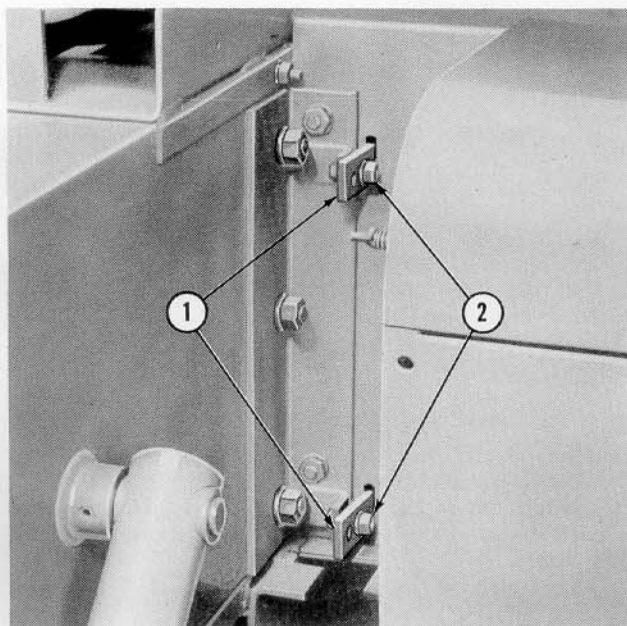

Figure 10
Figure 10, in the brackets (1), which extend through the rear of the auger housing. Moving the baffle forward causes more hay to be placed in the far side of the bale chamber.